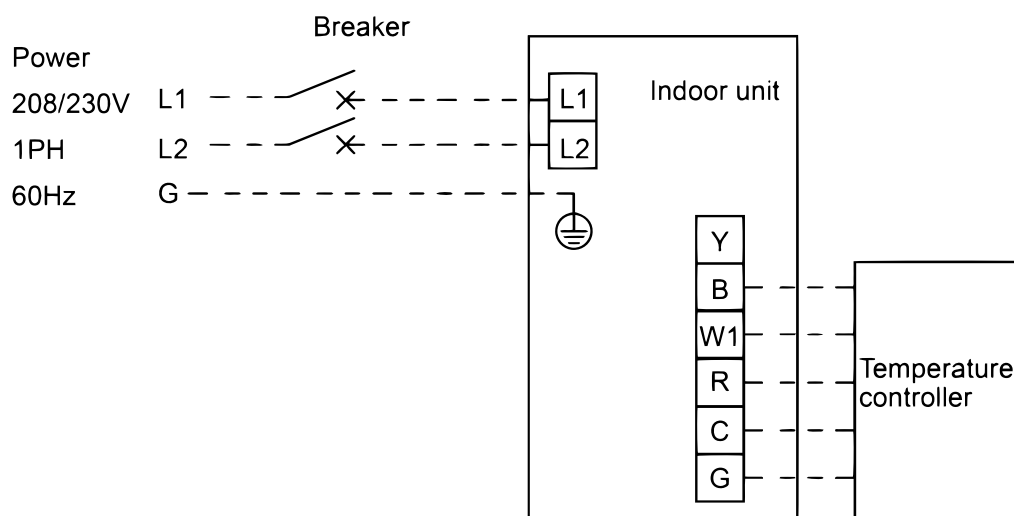

Fig. 2.13
**For all terminal wiring** (Refer to **Fig. 2.13** on the next page):